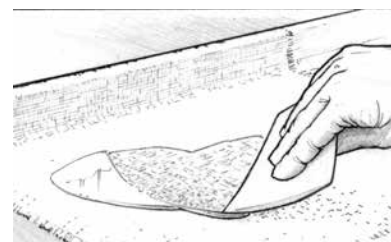

Figure 24 Spread the epoxy over the cloth surface with a plastic spreader.
5. Spread the epoxy over the cloth surface with a plastic spreader, working the epoxy gently from the pool into the dry areas (Figure 24). Use a foam roller or brush to wet out fabric on vertical surfaces. Properly wet out fabric is transparent. White areas indicate dry fabric. If you are applying the cloth over a porous surface, be sure to leave enough epoxy to be absorbed by both the cloth and the surface below it. Try to limit the amount of squeegeeing you do. The more you “work” the wet surface, the more minute air bubbles are placed in suspension in the epoxy. This is especially important if you plan to use a clear finish. You may use a roller or brush to apply epoxy to horizontal as well as vertical surfaces.